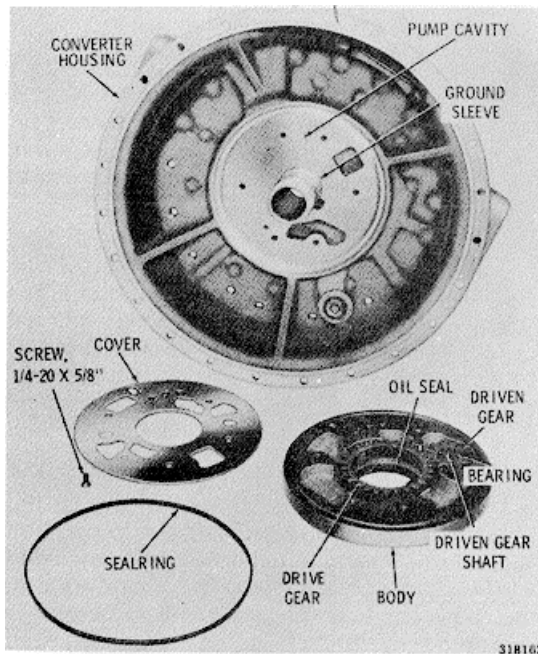
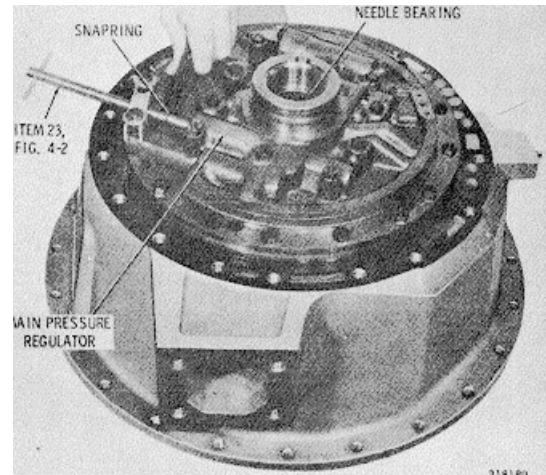

Fig. 6-15. Oil pump and torque converter housing .
Fig. 6-16. Removing (or installing) main pressure regulator snapping.
(4) Remove the screw retaining the oil pump cover (fig. 6-15). Remove the cover, sealring, drive gear, and driven gear assembly.
(5) Remove the roller bearing from the driven gear, and the oil seal from the pump assembly. Remove the sealring (if present) from the outer circumference of the pump.
(6) Using the spring compressor (item 23, fig. 4-2) depress the main pressure regulator valve spring (fig. 6-16). Remove the snapping.
(11) If replacement is necessary, remove the needle bearing from the bore of the support hub (fig. 6-16).
(12) If parts replacement is necessary, remove test plugs 18 (A, foldout 8) from housing 16.
(13) Do not remove the ground sleeve (fig. 6-15) from the front support. If there is evidence of movement, or damage, replace front support and ground sleeve assembly 2 (B, foldout 10).
(4) Install spring 4 and valve stop 5. Place washer 6 on spring 4 and compress the spring into the valve bore until the snapping groove is clear (fig. 6-16). Install snapping 7.
(5) Install lockup shift valve 8, small end first, into the bore indicated in B, foldout 10. Be sure the valve will move freely of its own weight in its bore.
(6) Install spring 9 and valve stop 10. Place washer 11 on spring 9 and compress the spring into the valve bore until the snapping groove is clear (use spring compressor). Install snapping 12.
(7) Install spring 13 into the converter regulator valve bore indicated in B, foldout 10. Install converter bypass valve 14 and valve seat 15. Spring compressor is not required for this spring.
(8) Install support assembly 16 and snapping 19 into the valve bore.
(9) Place converter housing 16 (A, foldout 8) on the work table, front side down.
(17) If the needle bearing (fig. 6-15) was removed from the oil pump driven gear, install a new bearing. Center it in the gear.
(18) Install the driven gear and the drive gear into the oil pump body (fig. 6-15).
(19) Install the cover, and retain it with the 1/4-20 x 5/8-inch flat-head screw (fig. 6-15).